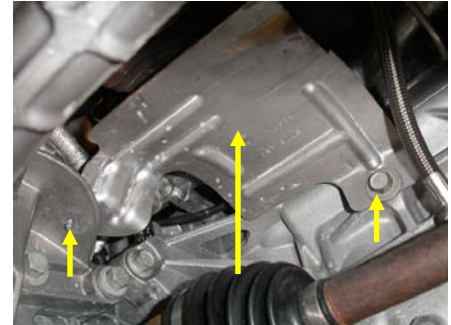

Fig. 8
7. Remove drive shaft heat shield – the heat shield is held on with two (2) fasteners. First, remove the heat shield-to-transmission bolt; second, remove the heat shield-to-engine block bolt. Keep the fasteners and heat shield in a safe place, they will be reinstalled later (Figure 8).